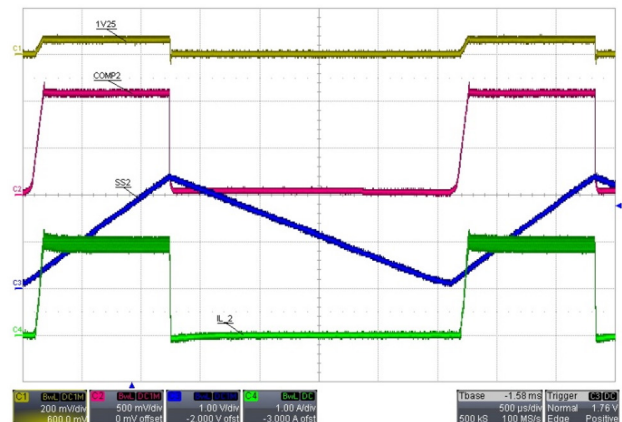

Figure 9: Synchronous Buck Hiccup Mode Operation when 1V25 is Shorted to GND and $C_{SS2} = 10$ nF
5. Hiccup short-circuit protection; lab measurement shown in Figure 9 and detailed timing diagram shown in Figure 23